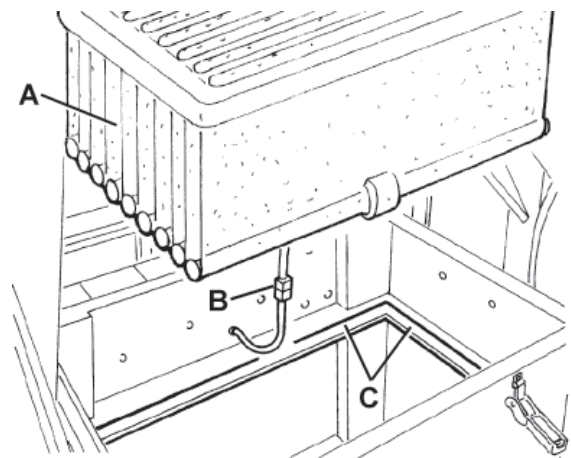

Figure 17
7. Disconnect the filter shaker connector (B, Fig. 17) and remove the dust filter (A).
15. If necessary, clean the filter compartment rubber gasket (C, Fig. 17) along its perimeter and check it for integrity. If necessary, replace it.